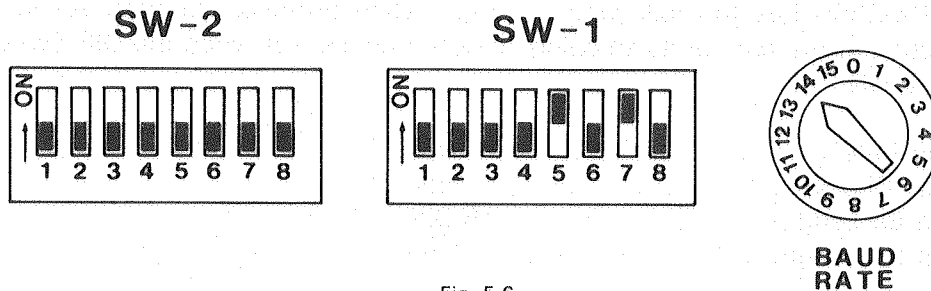

Fig. 5-6
- ① Turn OFF the power switch of the DPX-3300.
- ② Turn ON the DIP Switch 1- ⑤ and ⑦ by hitting them upward. (Remember: You must do this because they have been turned OFF at the time of shipping.)
Also, at the time of shipping, plotting papers and character fonts have been set at ANSI-D size and ANSI ASCII (I), respectively. And the **baud rate, the data bits, the stop bit and the parity check have been set at 9600 baud, 8 bits, 1 bit and non,** respectively. For settings other than these, see Fig. 5-6 to set the DIP Switch 1 ("SW-1") and the DIP Switch 2 ("SW-2") properly. (See 10.1 "LIST OF DIP SWITCH SETTINGS" in CHAPTER 10.)